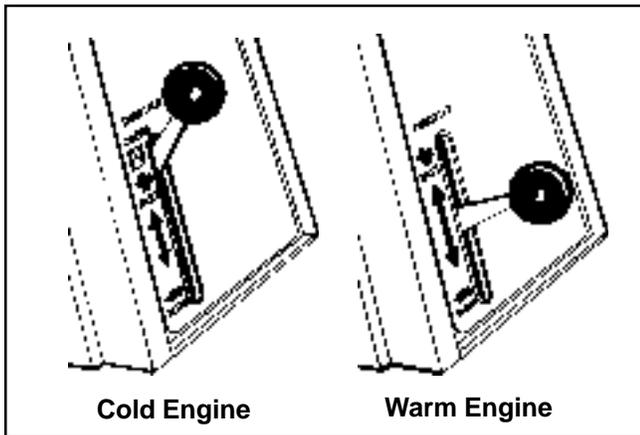

Figure 5-20. Typical Throttle/Choke Controls.
**NOTE:** The choke is placed “on” by moving the throttle control slightly past the “fast” position. If the throttle control does not have a designated choke “on” position, be sure to leave sufficient throttle control travel past the “fast” position. This will enable the choke to be placed “on”. See Figure 5-20.